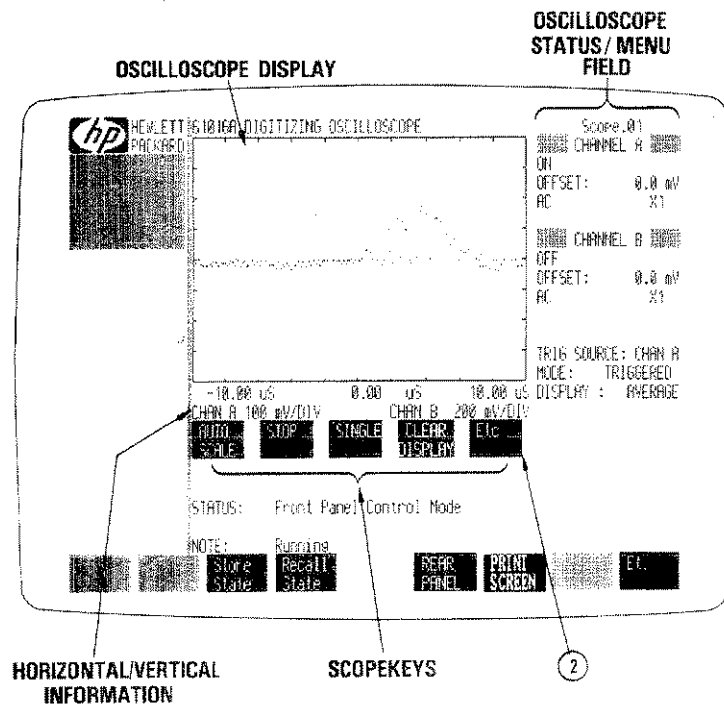
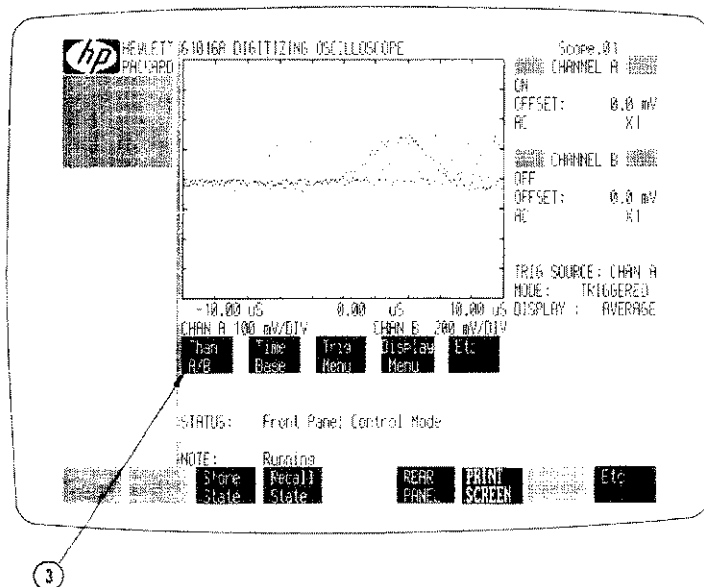

Figure 2-2. Oscilloscope, Front Panel View
Figure 2-3. Accessing a Level 2 Interactive Menu.
Step 2 - Once you select SCOPE.01, the SCOPE.01 area of the System View Window turns bright and your Oscilloscope appears in the Interactive Instrument Window (see Figure 2-2). That window has four fields unique to the Oscilloscope:
Step 3. The level 2 Scopekeys now appear in the Interactive Instrument Window (see Figure 2-3). These allow you to select the major Oscilloscope subsystems that must be properly configured to acquire and display a desired waveform. These Scopekeys give you access to interactive menu(s) displayed in the Oscilloscope Status/Menu field and allow you to make specific setup selections for your application. Point to and select the Chan A/B Scopekey to display the Channel A/Channel B Menu.
Notice that you still have the Chan A/B Menu in the Menu/Status field. To choose another menu (Time Base, for example), select the Etc Scopekey twice. This advances you to the level 1 Scopekeys (Figure 2-2) and then to level 2 (Figure 2-3). Selecting the Etc Scopekey always advances you in the same direction; you cannot "back up" to the previous Scopekey level.
To gain access to the menus, select the appropriate Scopekey. Several Scopekeys allow you to access more than one menu; however, you can display only one menu at a time. You can quickly see if more than one menu is available in a Scopekey group by looking at the bottom of the menu field (see Figure 2-3). If there is a Cont Scopekey in the field, then there is more than one menu in that group. Otherwise, there is only one menu in the group. Selecting Cont steps to the next menu in the selected Scopekey group. Menu selection is limited to the selected group until you select another Scopekey or the STATUS scopekey.